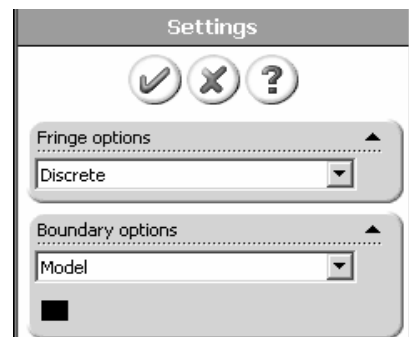

Figure 18 – Selections in the **Settings** property manager.
6. Right-click **Plot1 (-vonMises-)** and from the pull-down menu select **Settings**. The **Settings** property manager opens as illustrated in Fig. 18.